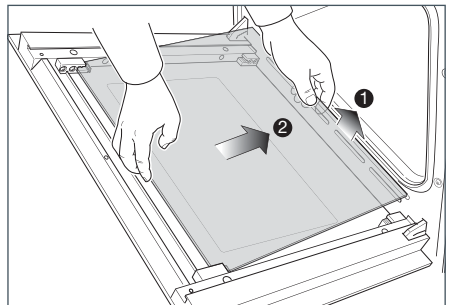

Fig.45c
- Gently lift the bottom edge of the pane (arrow 1 in Fig. 45c) and remove it by pulling it out from the top clamps (arrow 2 in Fig. 45c).